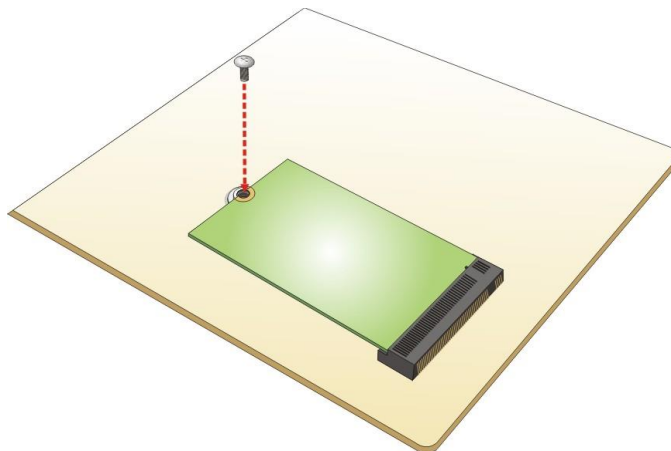

Figure 4-3: Securing the M.2 Module
Step 4: Secure the M.2 module with the previously removed retention screw (**Figure 4-3**).